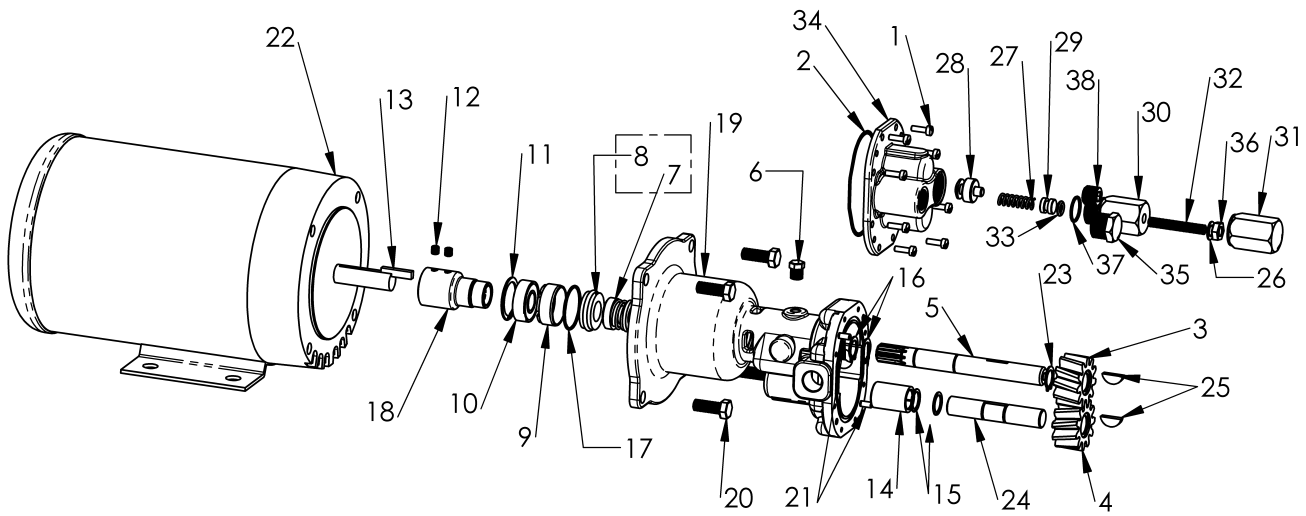

Figure 13 – Repair Parts Illustration
(Refer to Figure 13 for Reference Numbers and Figures 8 & 9 for detailed seal and shaft assemblies.)
4. Inspect pump for wear on pump body, gear, shafts, bushings (bushing replacement is not recommended), bearings and cover. If any components are worn, consider replacing the complete pump. Complete pump heads can be found on Figure 13.
1. (Refer to Figure 13.) Remove threaded cap (Ref. No. 31) and loosen lock nut (Ref. No. 36) on pressure relief valve adjustment screw (Ref. No. 32) and rotate clockwise (CW) 1-2 turns to pressure relief valve spring retainer (Ref. No. 29).